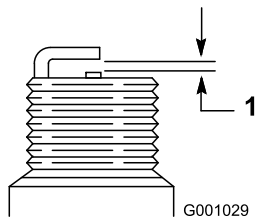

Figure 56
- Set the gap between the electrodes on a new spark plug at 0.030 inch (0.76 mm) (Figure 56).